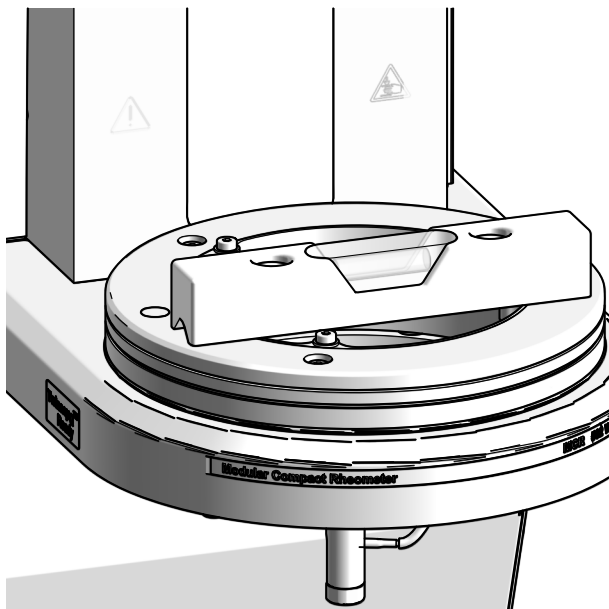

Fig. 6: Water balance parallel to back of instrument
- To do this, place the supplied water level on the flange ring, align it parallel to the back of the MCR and check if it is leveled (Fig. 6). Level the MCR with the rear adjustable feet (Fig. 2, ⑥).